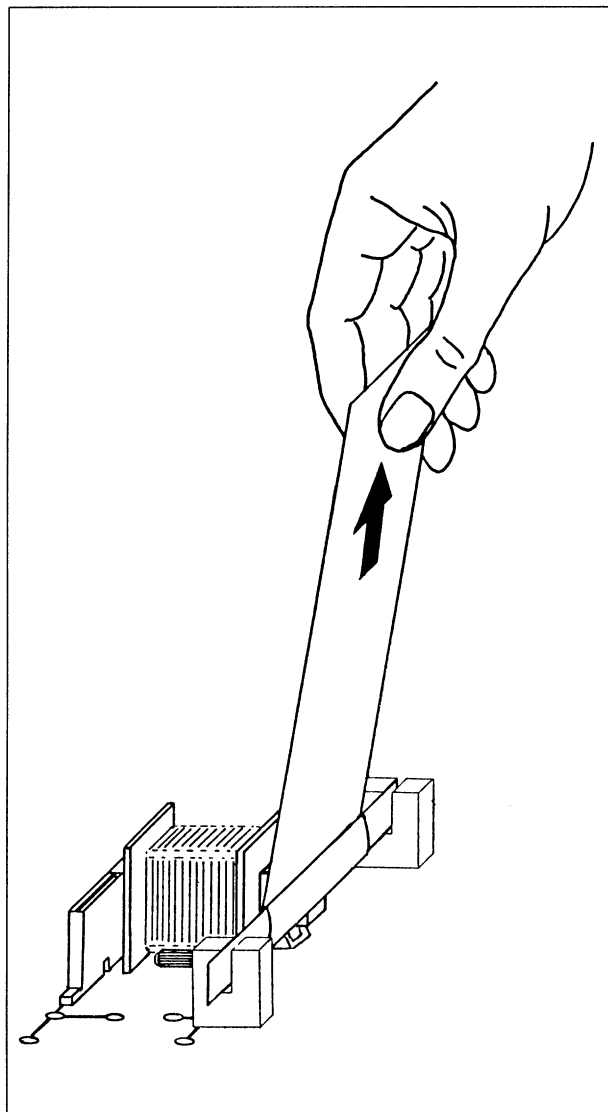

Fig. 2 Strip of paper as loudspeaker membrane. The bottom end is wrapped around the leaf spring twice.
(1) leaf spring; (2) plug-in holders
▶ Fig. 2.
5. Tension the strip of paper as shown in Fig. 2.